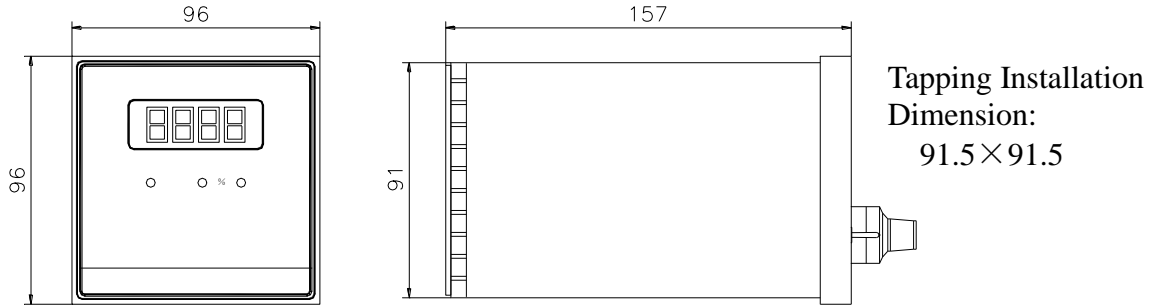

Figure 3. Dimension of 1K Readout Box Chassis
5.1 Dimension & Installation (figure3)